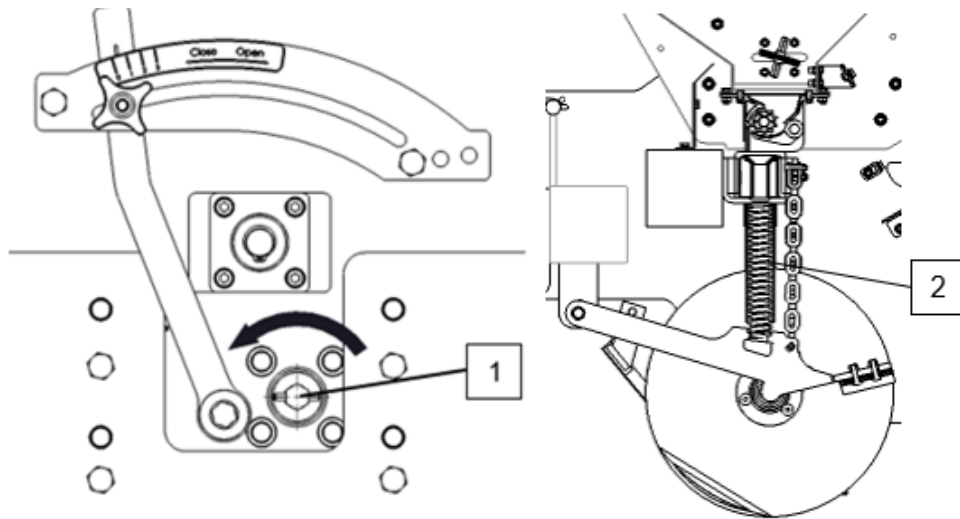

Fig. 7-1
Rotate the shaft in the direction indicated by the arrow. (See Fig. 7-1)
- Check that the seed passage (2) is not blocked. (Fig.7-1)